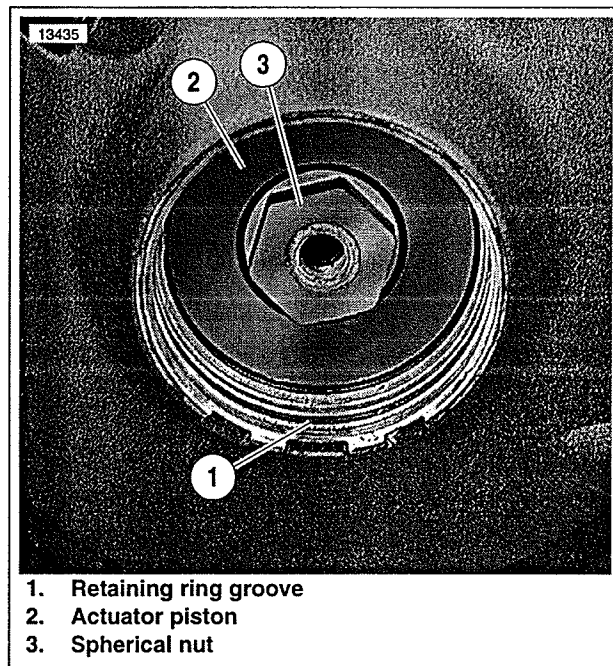

Figure 3. Retaining Ring Groove
6. See Figure 3. Insert retaining ring into the groove (1) of the secondary clutch actuator cover.
34. See Figure 3. Remove retaining ring from groove (1) in cover.